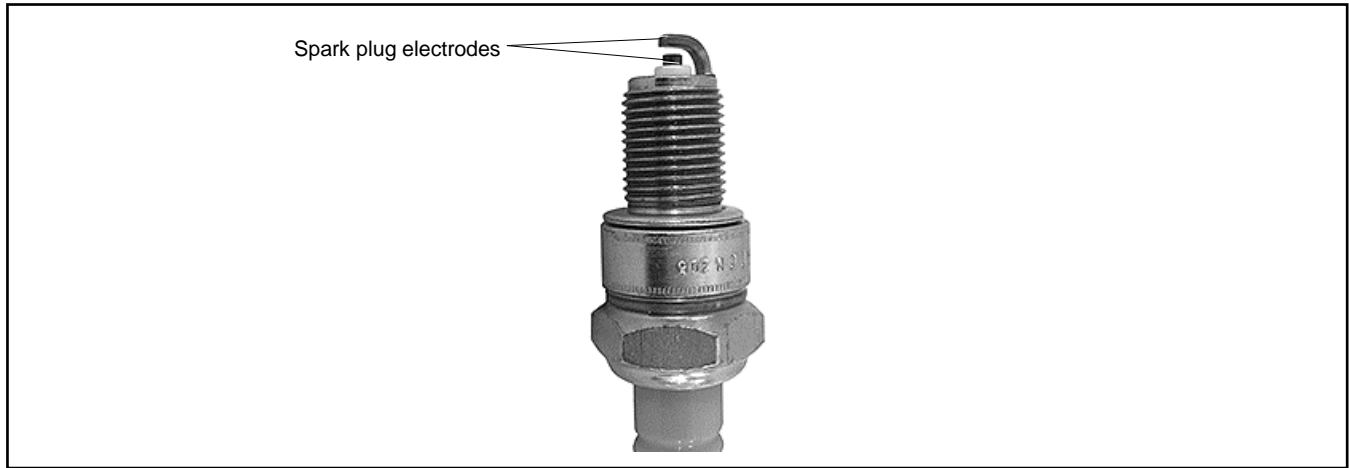

Figure 23 Spark Plug Electrodes
6. Inspect the electrodes on each spark plug. See Figure 23. The electrodes should be light brown. If the electrode appears to be burned, covered with soot, or fouled with oil, replace the spark plug.